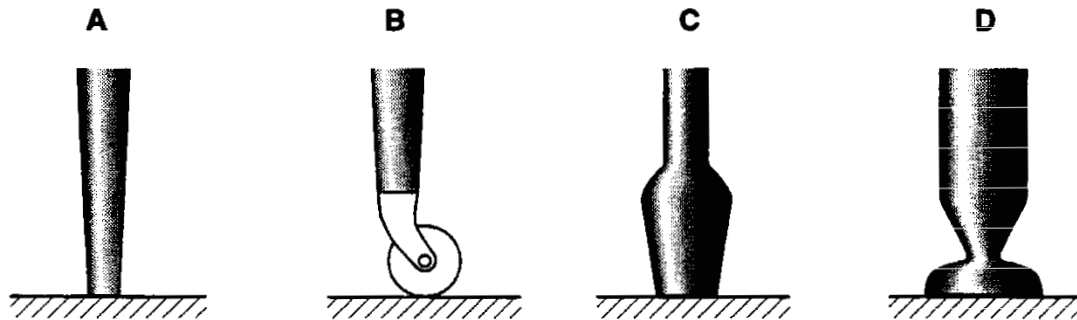

Fig. 3
- (a) Heavy furniture sometimes marks the floor on which it stands. Four tables of the same weight each have four legs. Fig. 3 shows part of a leg from each table.